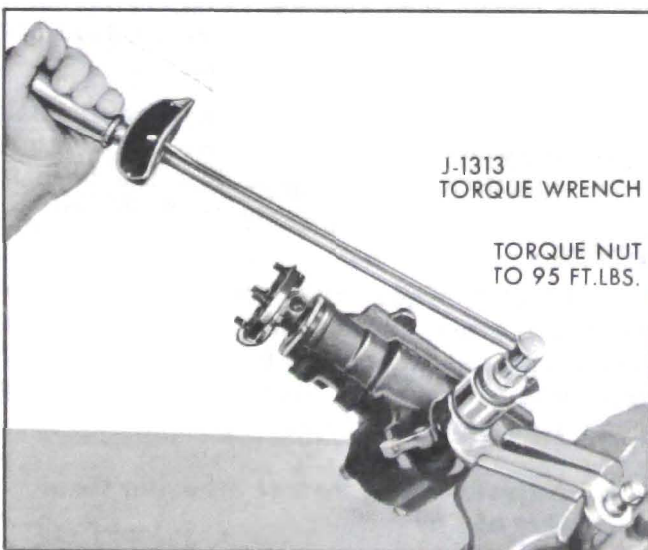

Figure 8-30—Torquing Pitman Arm Nut
1. Install pitman arm, lock washer and nut on pitman shaft. Place assembly in vise as shown and torque nut to 95 ft. lbs. See Figure 8-30.